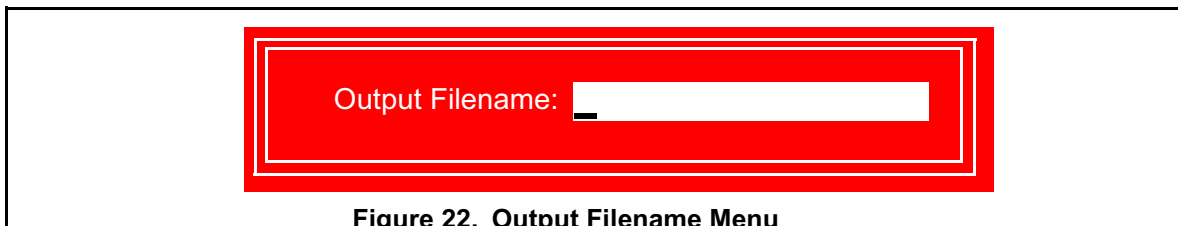

Figure 22. Output Filename Menu
6. Type a new file name, or type the original file name in the Output Filename: prompt as desired. Remember, file names may not exceed eight characters in length. See Figure 22.